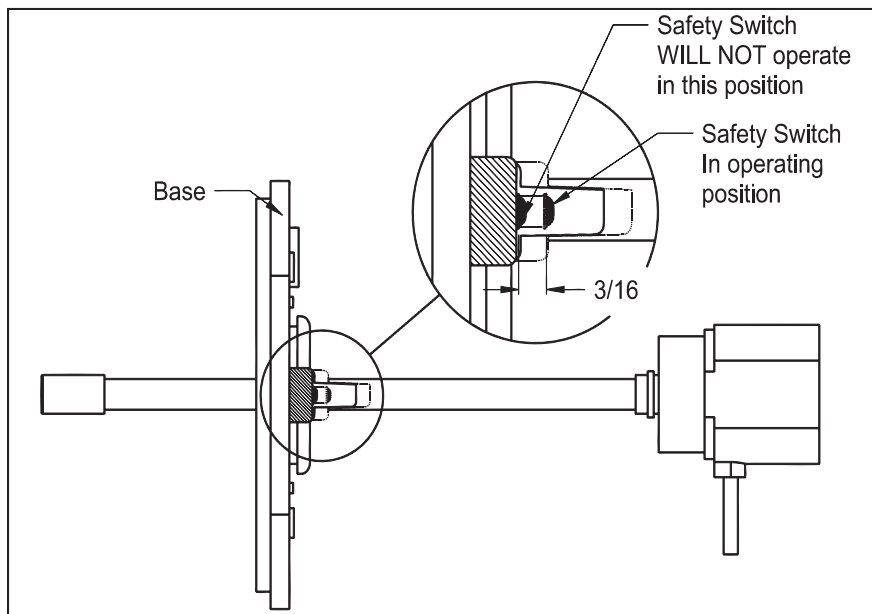

Figure 8
13. If blue glow is not seen, make sure the base is properly installed onto duct. There is a proving switch located on the base that needs to be seated properly onto the duct. Make sure when installing the base the plated washer on the switch is raised approximately  $\frac{3}{16}$ ". The proving switch must be fully engaged. (See Figure 8)